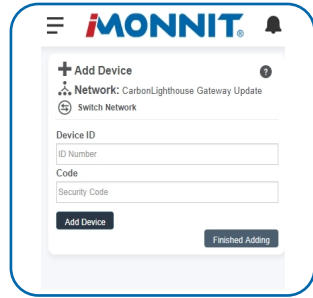

Figure 10
3. Adding your device. See Figure 10.